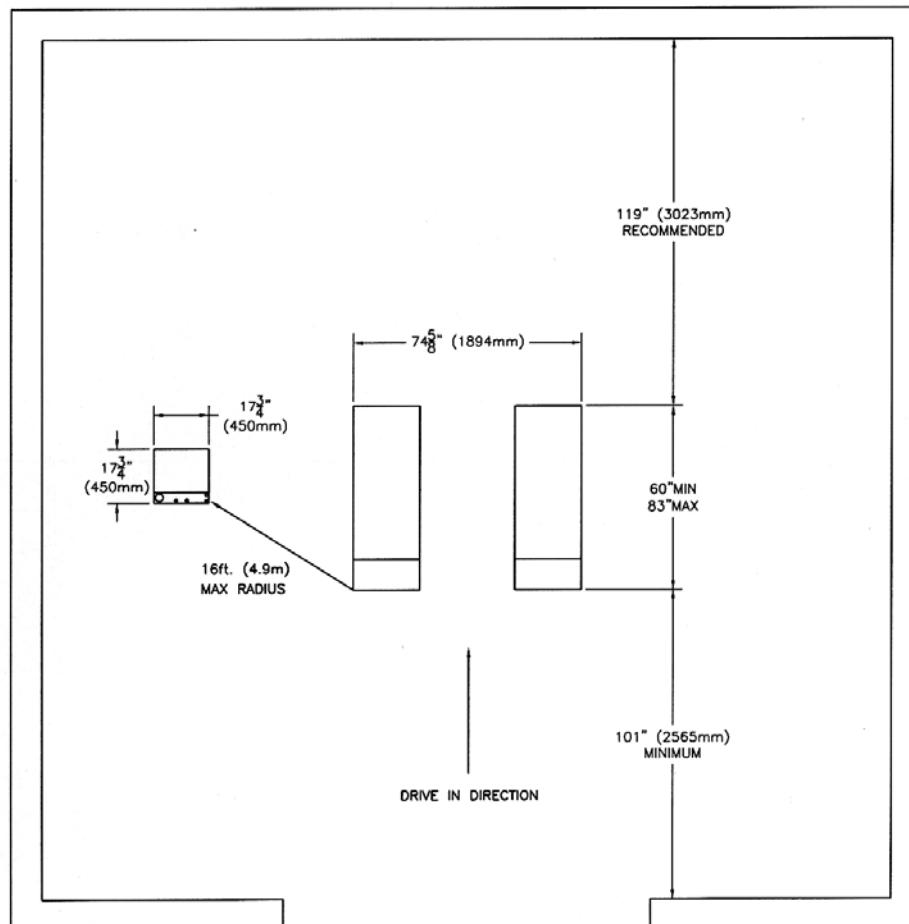

Figure 2 - Typical Bay Layout
5. Position both base frames in the foundation according to the drive-on direction of the lift (see Figure 2).
6. Align the runways parallel to each other and in the drive-on direction (Figure 2).